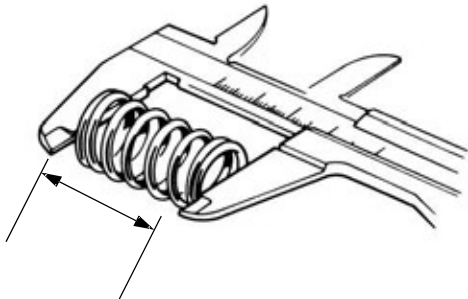

Figure 4-15: Measure Valve Spring Free Length
4. See Figure 4-15. Use a 5.5 mm (0.2165 in.) valve guide driver and carefully remove the exhaust valve guide from the cylinder head.